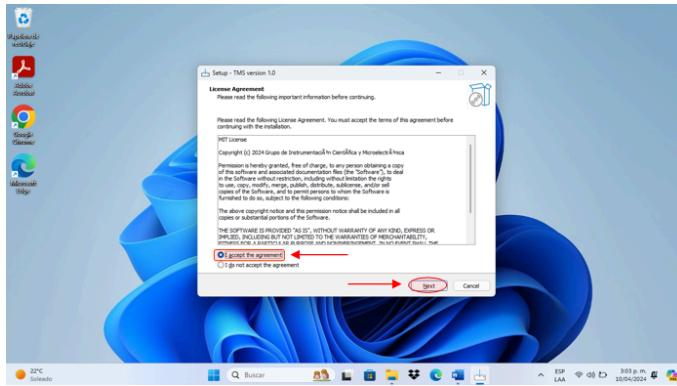

Figure 5. License agreement.
- IV. Once the previous steps are completed, the license agreements will open. It is recommended to read them carefully. Once read, select “*I accept the agreement*” and then click “*Next*”. In *Figure 5*, the corresponding options are indicated.